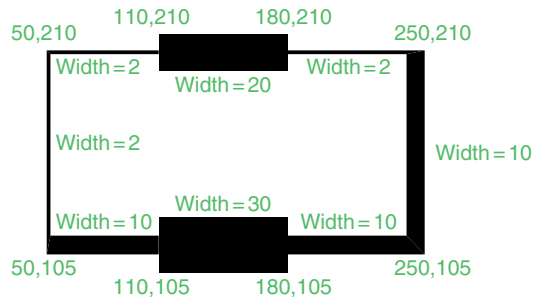

Fig. 2.36 Exercise 8
8. Construct the outline in Fig. 2.36 using the **Polyline** tool.